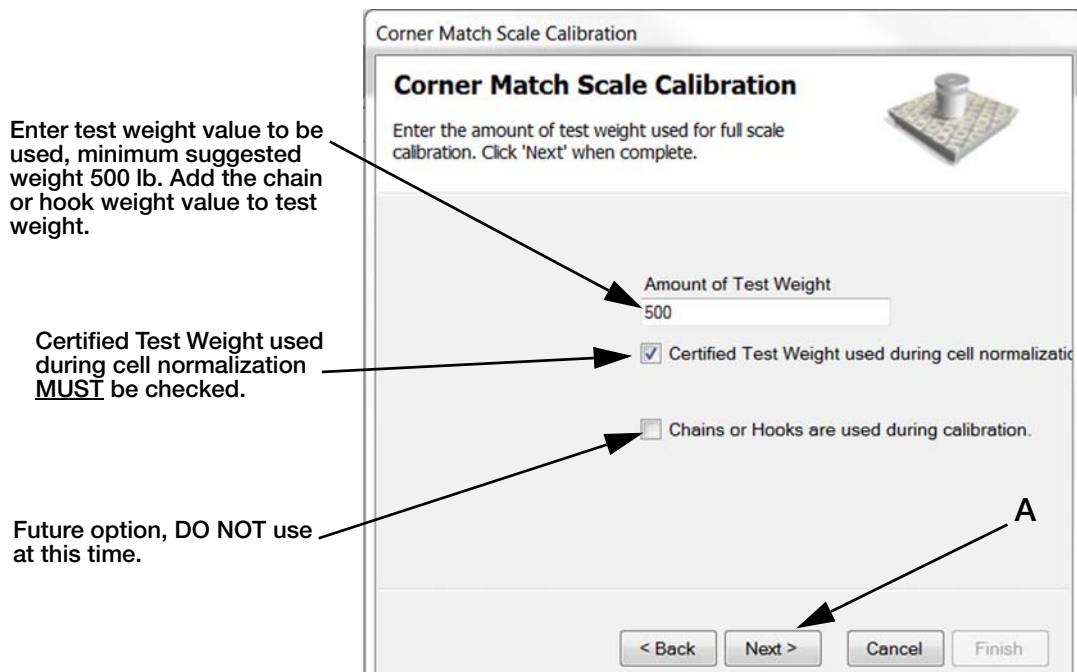

Figure 5-4. Enter Test Weight Value
Note When hanging weights from the forks make sure to note the weight of hanging device and add to test weight value (Figure 5-4).
6. Enter test weight value to be used and press **Next** (Figure 5-4 A).